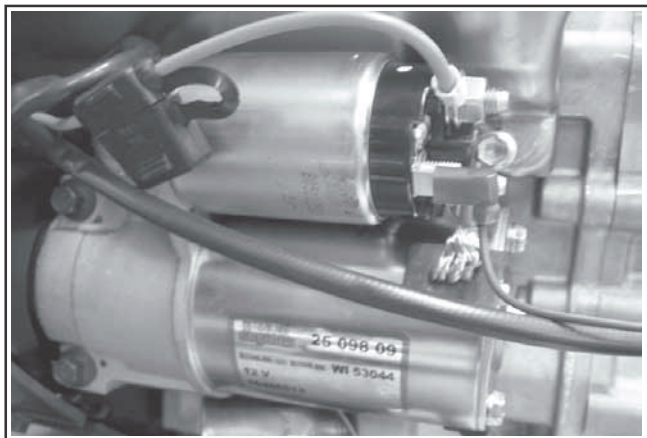

Figure 10-89. Leads Connected to Starter.
3. Connect the leads to the solenoid. See Figure 10-89.